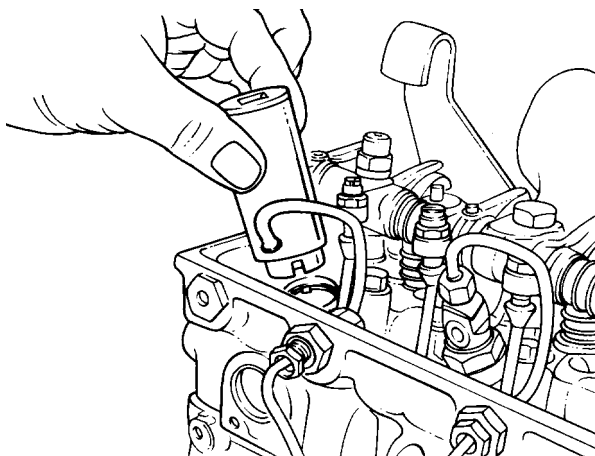

Figure 103 - Protective Sleeve - Removal
- j. Remove the protective sleeve using the tube spanner (Table 2, Item 9), (Fig 103).